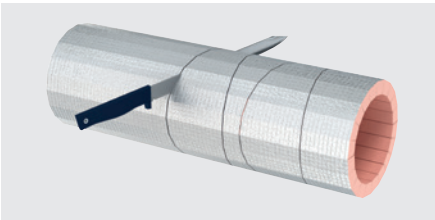

Figure 19: Mitred segments
- A straight section of circular rigid insulation shall be cut into mitred segments as shown in Figure 19.